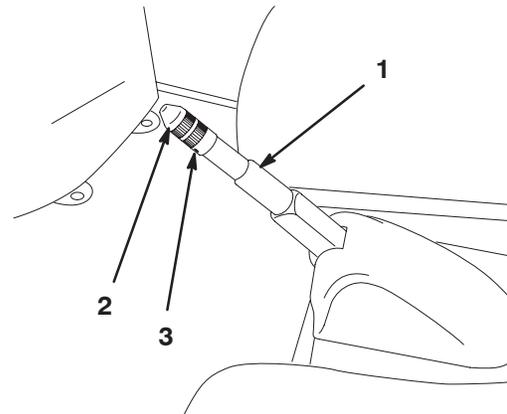

Figure 33
2. Loosen the set screw securing the knob to the parking brake lever (Fig. 33).